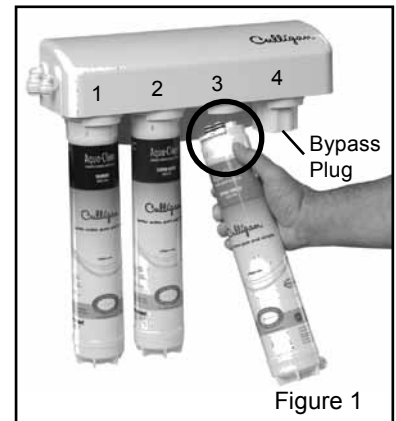

Figure 1
2. Match the inlet and outlet valve on the cartridge to corresponding port within the manifold and insert the cartridge. (Figure 1)
If only three cartridges are to be inserted into the manifold, the bypass plug cartridge must be inserted in the 4th position. (Figure 1)